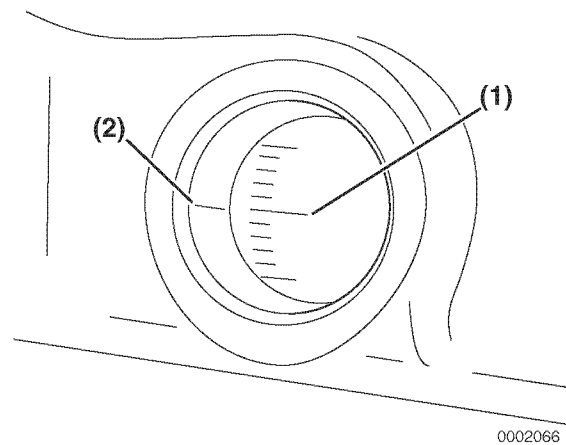

Figure 7-43
2. Rotate the flywheel until the target timing mark (Figure 7-43, (1)) and the timing reference mark (Figure 7-43, (2)) on the flywheel housing or back plate are aligned.